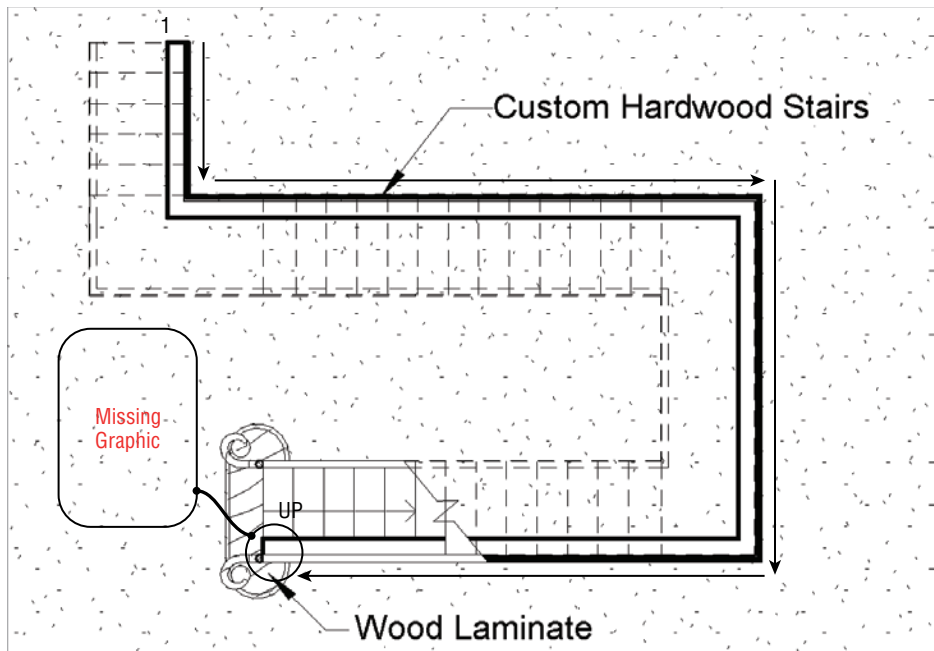

FIGURE 16.11 Placing the wall clockwise in the model
33. Draw the wall by snapping to the inside of the stringers, as shown in Figure 16.11. You want to go in a clockwise direction, so start with the northern part of the staircase, as illustrated by the 1 in Figure 16.11.